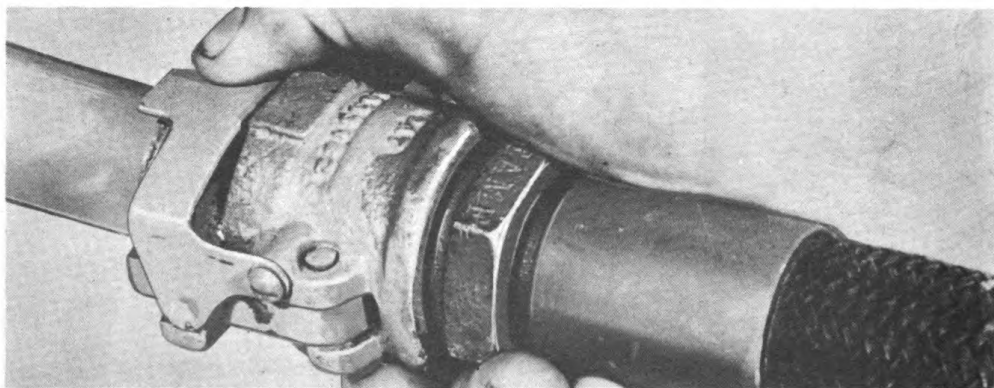

Fig. 48. Closing coupling lock until it covers ends of cams.
- Close coupling lock (fig. 48), being sure to push it all the way up, so that it covers ends of both cams.
f. Air hose. (1) To install hose on gun, snap hose socket onto the hose plug, which is located on the rear of the valve block.
(2) To attach hose to the plug on the air line valve of fuel group, snap hose socket onto plug of air line valve.